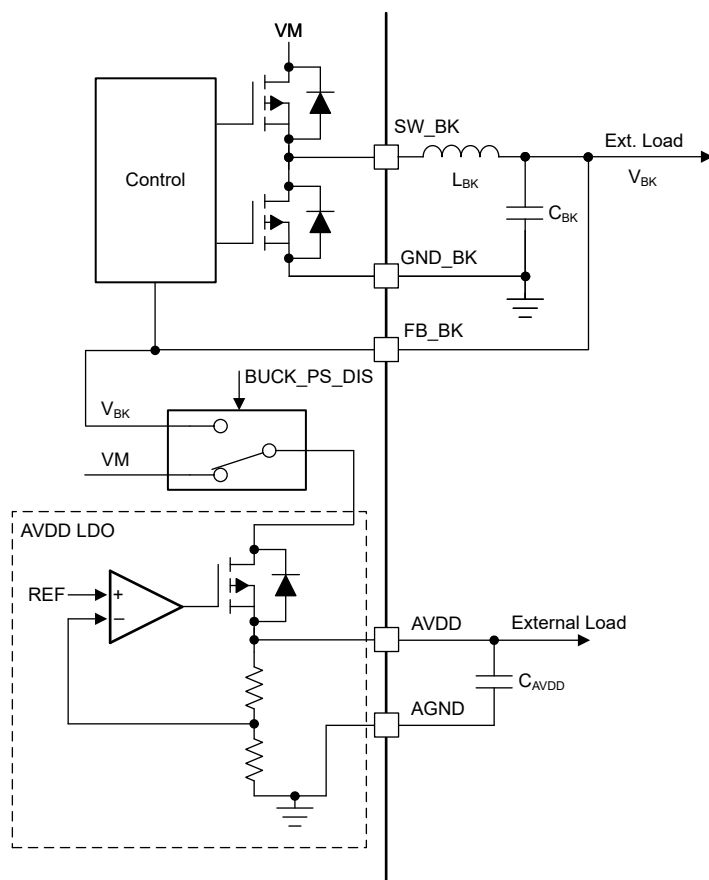

Figure 6-7. AVDD Power Sequencing from Mixed Mode Buck Regulator
The AVDD LDO has an option of using the power supply from mixed mode buck regulator to reduce the device power dissipation. The power sequencing mode allows on-the-fly changeover of AVDD LDO input from DC mains (VM) to buck output (V_{BK}) as shown in Figure 6-7. This sequencing can be configured through the BUCK_PS_DIS bit. Power sequencing is supported only when buck output voltage is set to 5V or 5.7V.